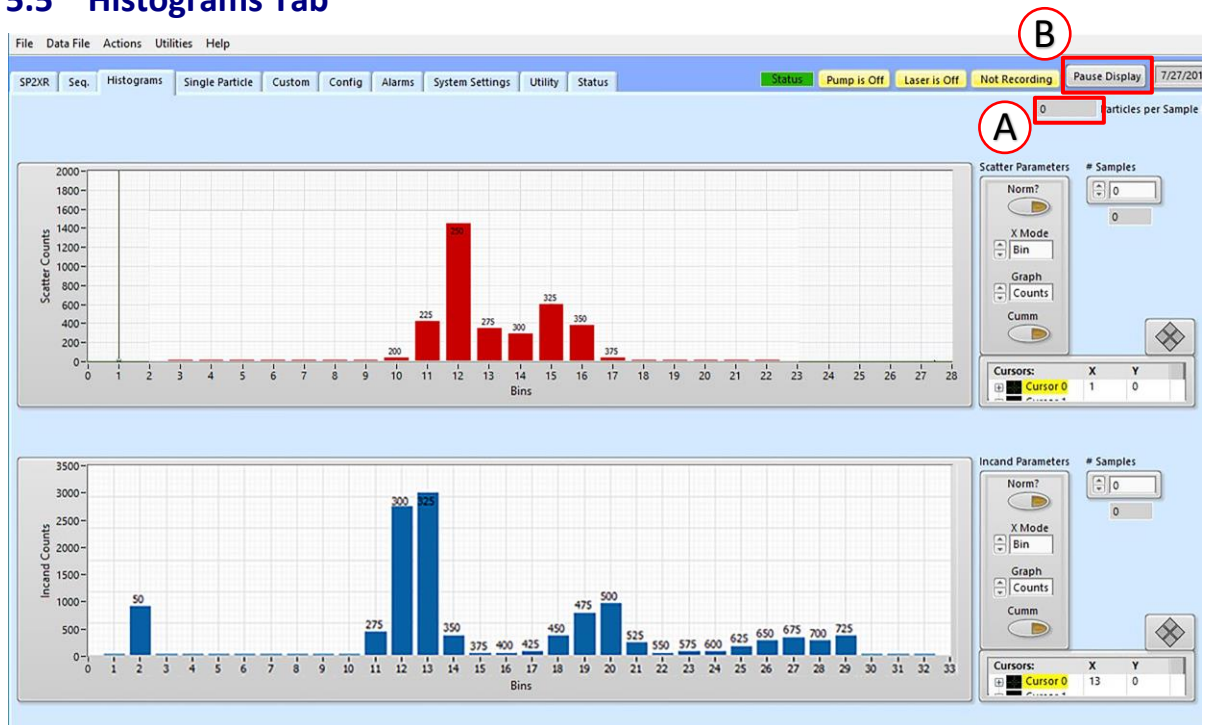

Figure 9: Histograms window: Scatter (Red) and Incandescent (blue)
Particle size histograms (Figure 9) detail the particle size histograms showing scatter (red) and incandescence (blue) as developed from the threshold tables. The data is given in counts on the Y axis. The **particles per sample period** are recorded in the top right field (A). The **Pause Display** toggle (B) will pause the data visualization display for closer inspection of a particular data event, or to save a screen capture of the event.